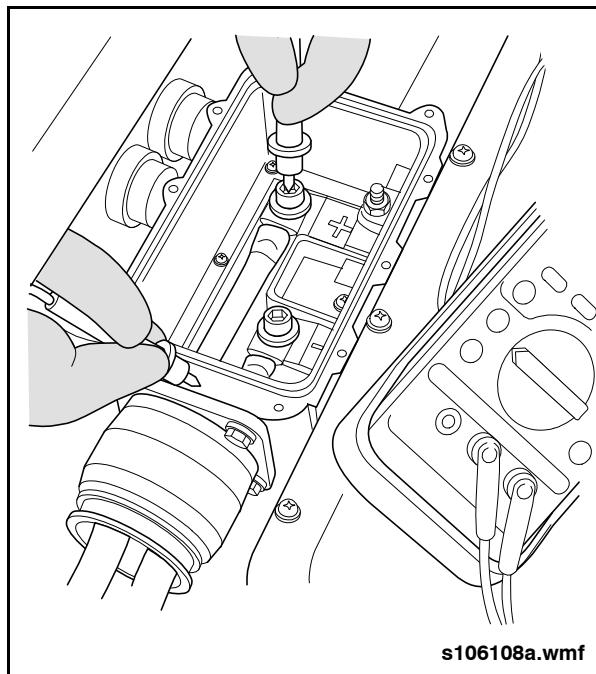

Fig. 58: Voltage Check Between DPIM DC HV Terminals & Ground
- b. DC positive terminal to chassis ground. See "Fig. 58: Voltage Check Between DPIM DC HV Terminals & Ground" on page 4. Voltage reading must be less than 3VDC before work can continue.